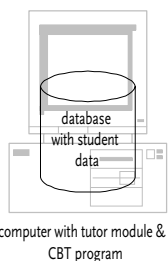

FIGURE 3-8
- one standalone computer Figure 3-8